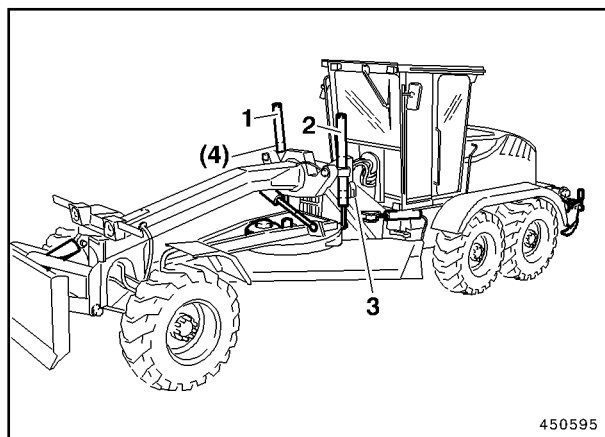

Fig. 1
The blade can be lowered in an emergency by actuating the valves (3 and 4) attached to the blade lifting cylinders (1 and 2, Fig.1).
To lower the left-hand side of the blade, actuate the valve (3, Fig. 1 and 2) on the left blade lifting cylinder (2).
To lower the right-hand side of the blade, actuate the valve (4, Fig. 1 and 3) on the right blade lifting cylinder (1).
To lower the left-hand side of the blade, actuate the valve (3, Fig. 1 and 4) on the left blade lifting cylinder.
To lower the right-hand side of the blade, actuate the valve (4, Fig. 1 and 6) on the left blade lifting cylinder (1).